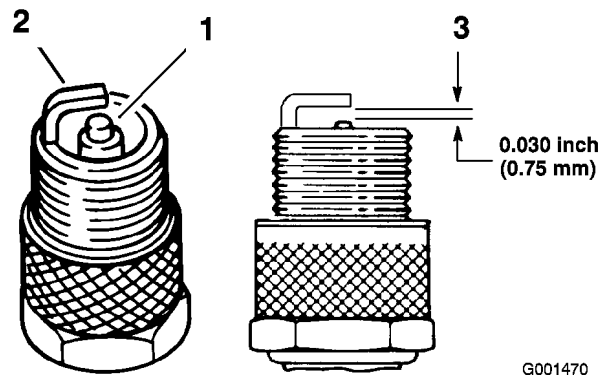

Figure 38
1. Look at the center of the spark plugs (Figure 38). If you see light brown or gray on the insulator, the engine is operating properly. A black coating on the insulator usually means that the air cleaner is dirty.
3. Check the gap between the center and side electrodes (Figure 38). Bend the side electrode (Figure 38) if the gap is not correct.
3. Connect the wires to the spark plugs (Figure 38).